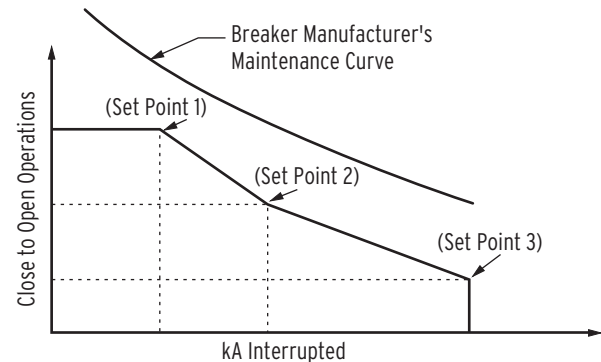

Figure 25 Breaker Contact Wear Curve and Settings
- Every time the breaker trips, the relay integrates interrupted current. When the result of this integration exceeds the threshold set by the breaker wear curve (Figure 25), the relay can alarm via an output contact or the optional front-panel display. With this information, you can schedule breaker maintenance in a timely, economical fashion.